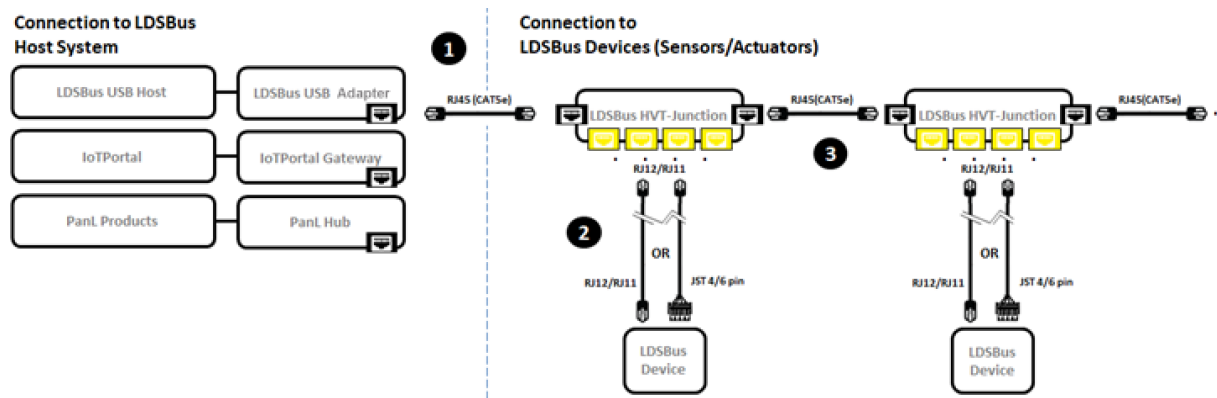

Figure 2 - LDSBus Trailing Edge Light Dimmer - Connection Diagram
Figure 2 illustrates the connection of the LDSBus Trailing Edge Light Dimmer (LDSBus Device) to the LDSBus. Please visit <http://bit.ly/ldsbus-resources> to view the full device application, setup and installation guides.
2. Connect the configured LDSBus Trailing Edge Light Dimmer to the LDSBus HVT-Junction as shown in Figure 2.
3. If there is more than one LDSBus HVT-Junction, chain them together as shown in Figure 2.